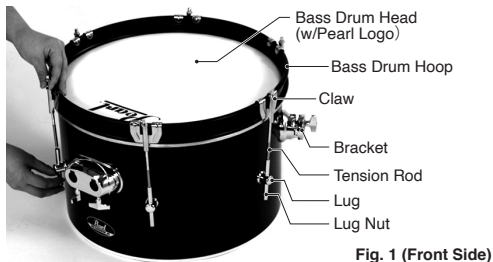

Fig. 1 (Front Side)
1. Place the shell with the Spur Bracket facing upward on a clean, solid surface. Put the Pearl logo head on the shell, followed by the hoop, and position the hoop inlay seam between the bottom two lugs (Fig.1).